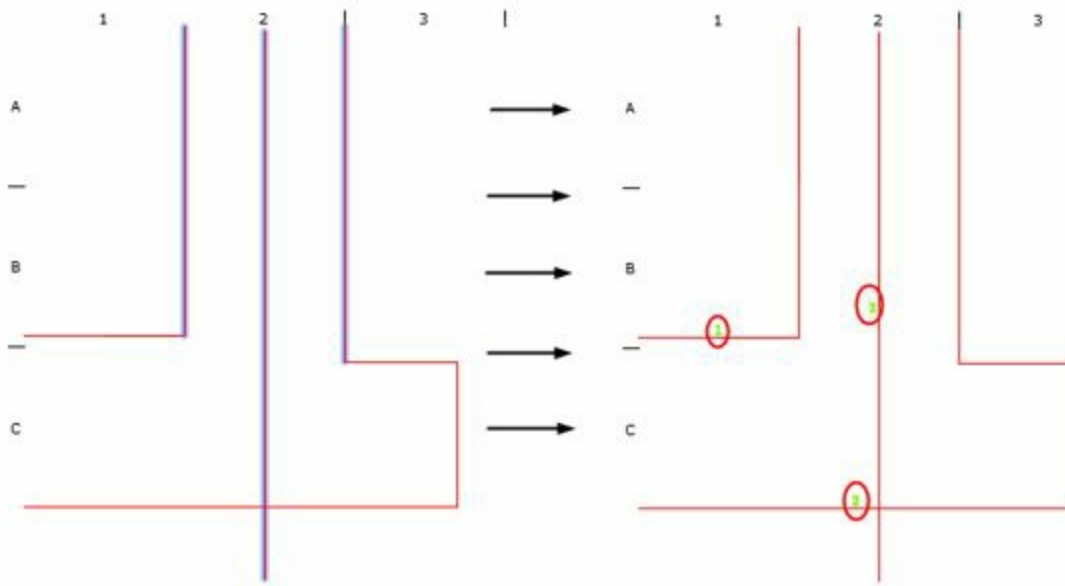

Figure-27. Wire numbering
- Select the wires one by one and press ENTER. The numbering will be assigned to the wires; refer to Figure-27.